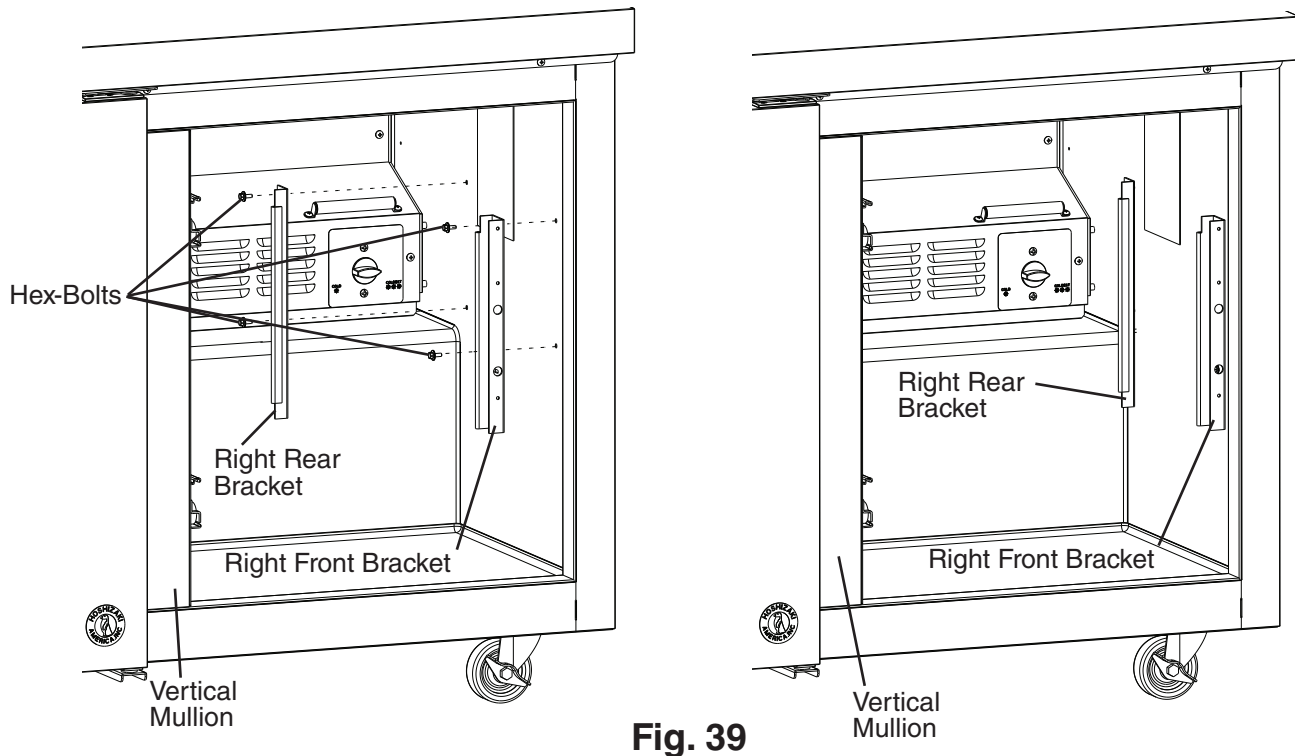

Fig. 39
- 23) Place the right rear bracket in place on the right side panel with the hex-bolts removed in step 4. Leave loose, do not tighten at this time. See Fig. 39.
- 24) Place the right front bracket in place on the right side panel with the hex-bolts removed in step 4. Leave loose, do not tighten at this time. See Fig. 39.